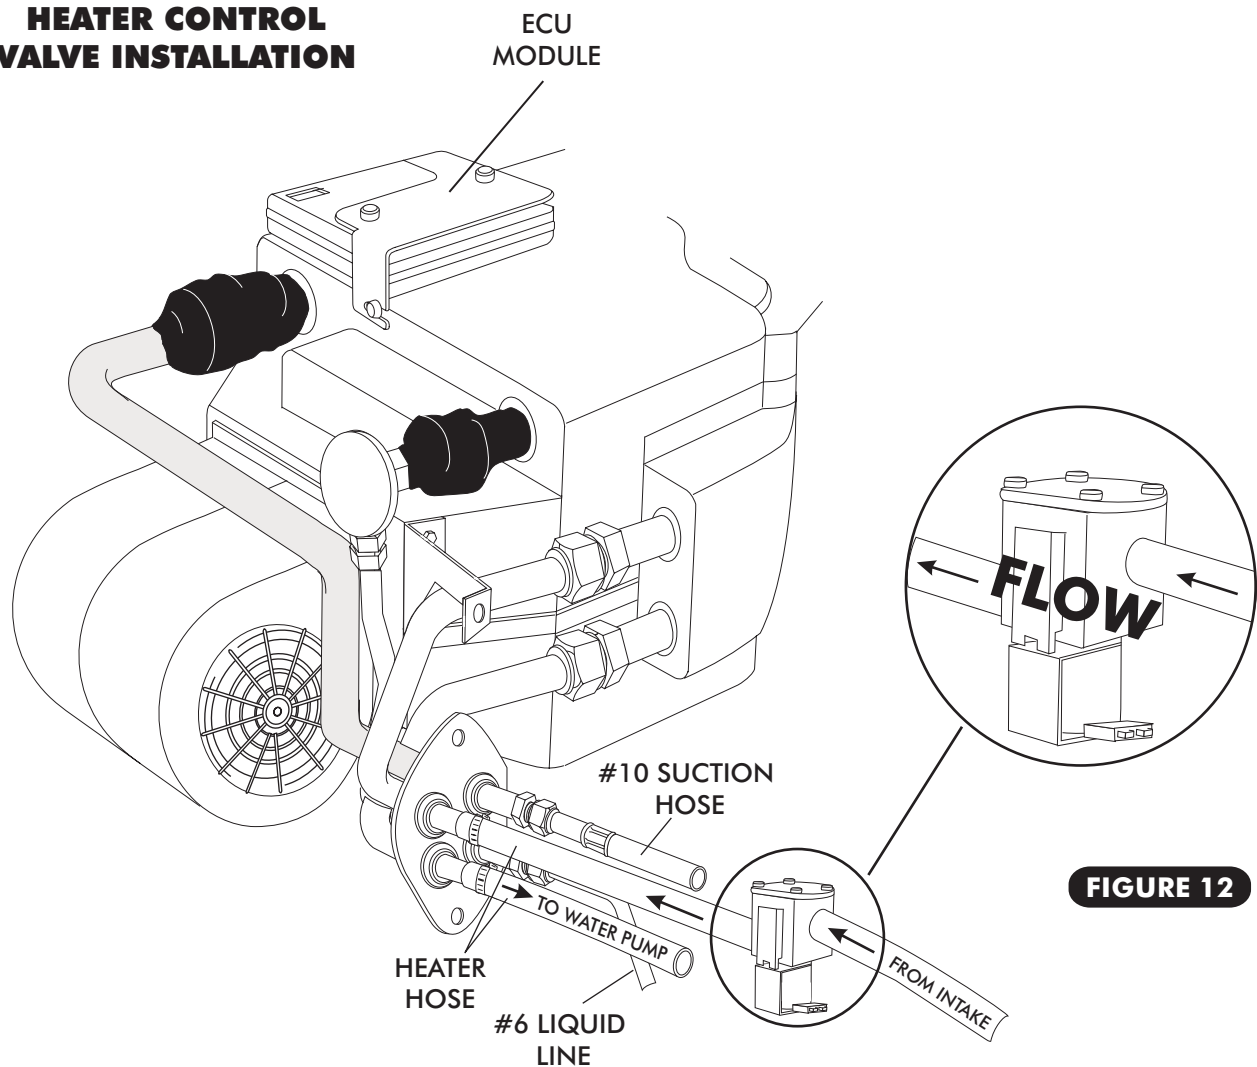

FIGURE 12
- ☐ INSTALL HEATER CONTROL VALVE IN-LINE WITH INTAKE MANIFOLD (PRESSURE SIDE) HEATER HOSE. SEE FIGURE 12, PAGE 12.